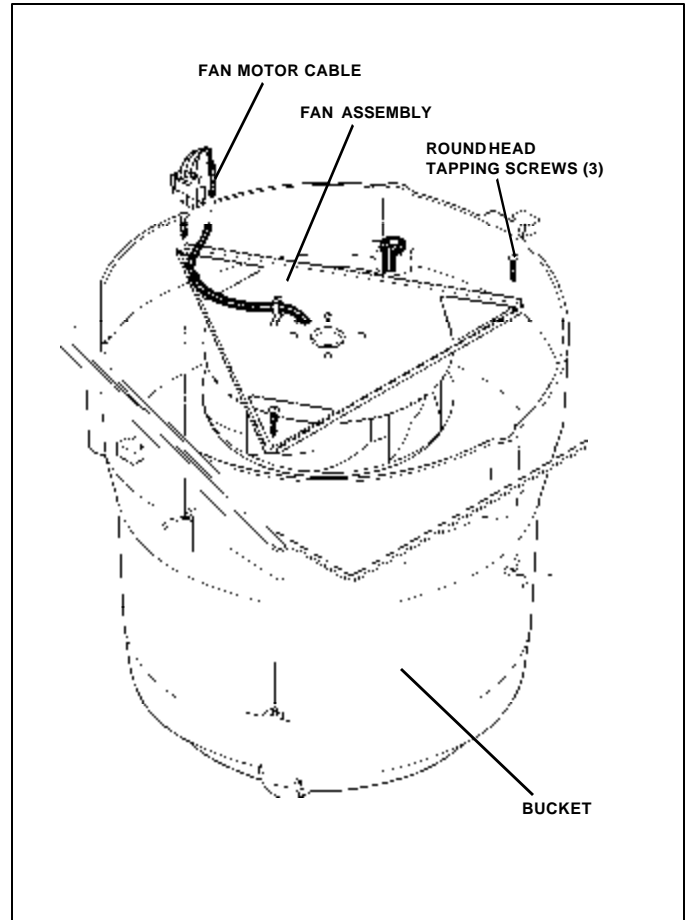

Figure 14 Fan Removal and Replacement
- Remove the three tapping screws from the *Fan Assembly* in the bottom of the *bucket* (See Figure 14).
- Tighten the three *Fan Assembly* screws, and plug the *fan motor cable* into the *Electronics Module* (See Figure 14).